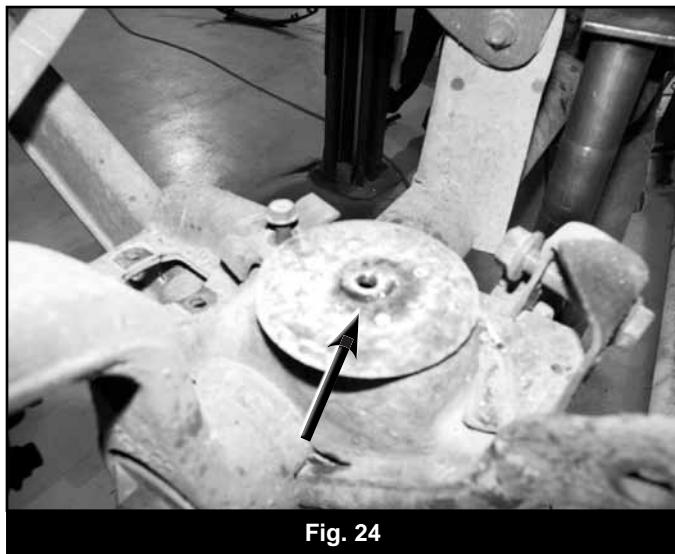

Fig. 24
62. Locate and drill a 5/16" hole in the center of the front coil spring axle mounts (Fig 24). Use a provided 3/8" self-tapping bolt (#438) to cut the threads for the bump stop extension (3396). Remove the bolt.